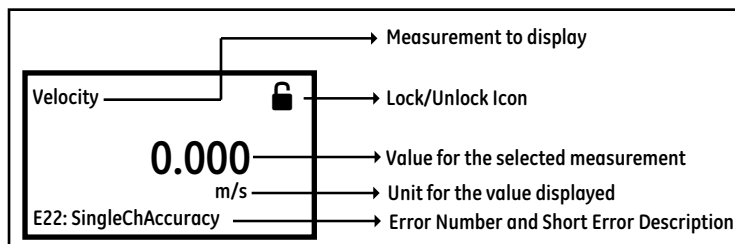

Figure 14: Measurement View
After power up, if the meter's *Measurement View* (Refer *Figure 14*) shows a lock icon on the top right of the display, use the following steps to unlock the meter from keypad lockout mode.
- Finally, the *Measurement View* (Refer *Figure 14*)
This screen (Refer *Figure 14*) will be referred to as "*Measurement View*" throughout this chapter. User can choose the measurement to be displayed in this view from a list of options. The Error indicator at the bottom left of the display will be blank if the meter has no error.